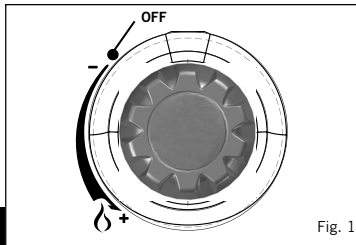

Fig. 1
- Before connecting the gas supply, firstly check that the appliance valve is in the off position by turning the control knob fully clockwise (See Fig. 1).
- To fit the Gas Container, first check that the appliance valve is in the off position by turning the control knob clockwise to its stop (See Fig. 1). Making sure that the Gas Container is kept upright, screw the container onto the valve in a clockwise direction until it is fully engaged, hand-tighten only. If the container is over-tightened, it may damage the container valve.
- To light the appliance manually, apply a flame to the burner using a BBQ Lighter, turn the appliance control knob slowly in an anti-clockwise direction until the burner lights (Fig. 1).